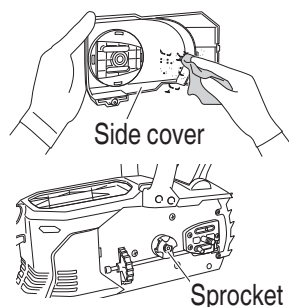

Fig. 41
2. Cleaning the side cover and sprocket (Fig. 41)